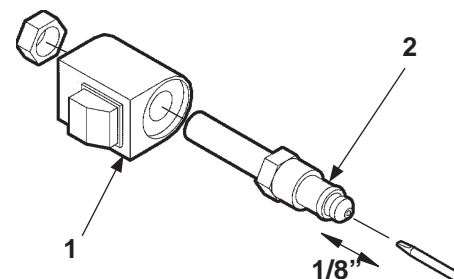

FIG. 49-2
2. Check the valve stem by removing the coil assembly (**Item 1, FIG. 49-2**). With platform on ground, unscrew the valve stem, (**Item 2, FIG. 49-2**) from the pump. Push on the plunger that is located inside the valve stem by inserting a small screwdriver blade in the end. If the plunger does not move freely (approximately 1/8") replace the valve stem. **When reinstalling valve stem, torque hex nut to 30 in-lbs.**